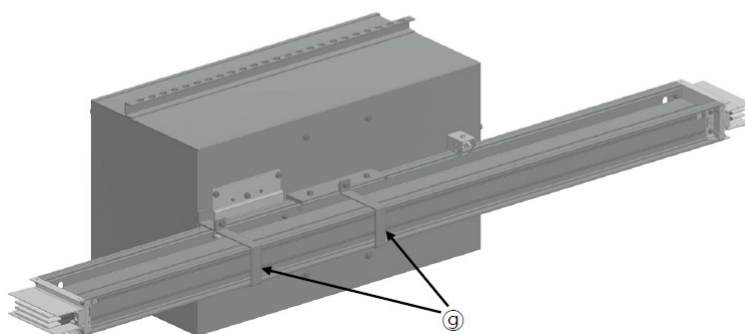

Figure 41. Fixing band
7. Use the fixing bands to firmly secure the bolt-on unit and busway. (Figure 41, g)